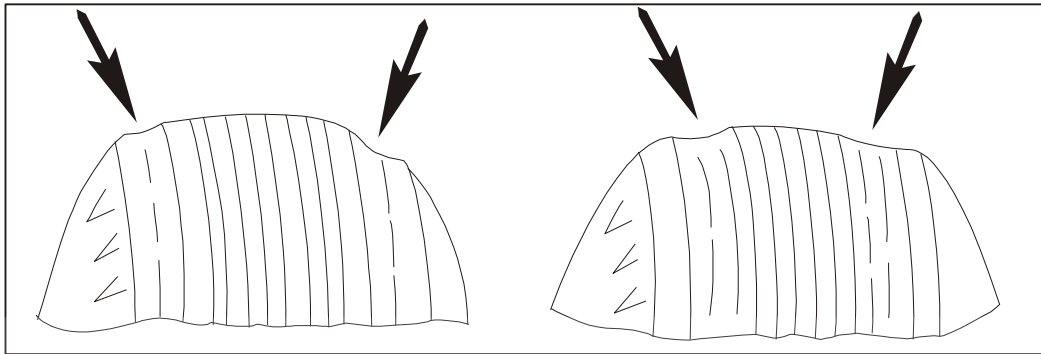

Figure 4-73 Abnormal Fault of Tire Pressure
(1) Failure symptom: Rapid wear of shoulder of tread, as shown in Figure 4-73.